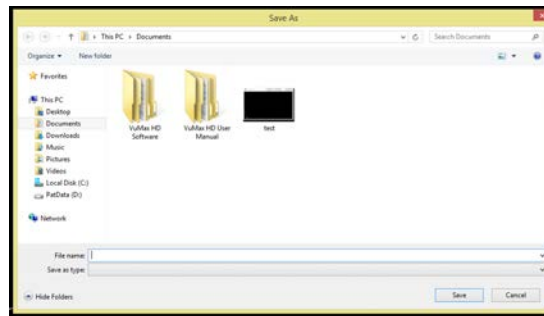

Figure 35: 'Save As' Window
- ⑦ **Save As:** Upon selecting the 'Save Screenshot' button, a Windows 'Save As' screen (Figure 35) will be displayed. Navigate through the folders to select a destination folder for saving the patient's saved A-Scan. Note that a 'File Name' is required for saving the document.